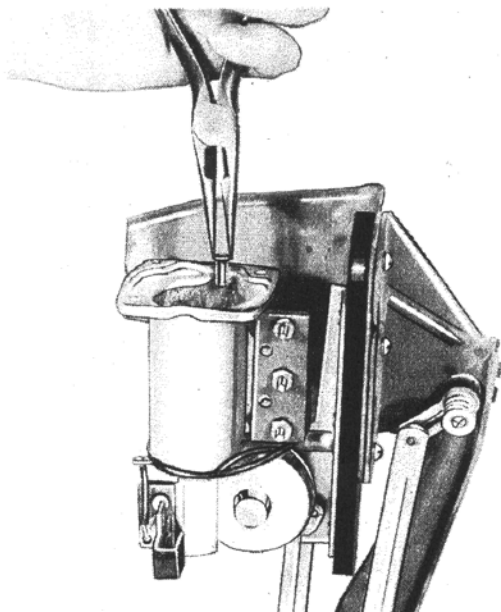

Figure 8 Installing Fibre Contact Pin
4. Place fibre contact pin in hole in bottom of housing. Use long nosed pliers as shown in Figure 8.